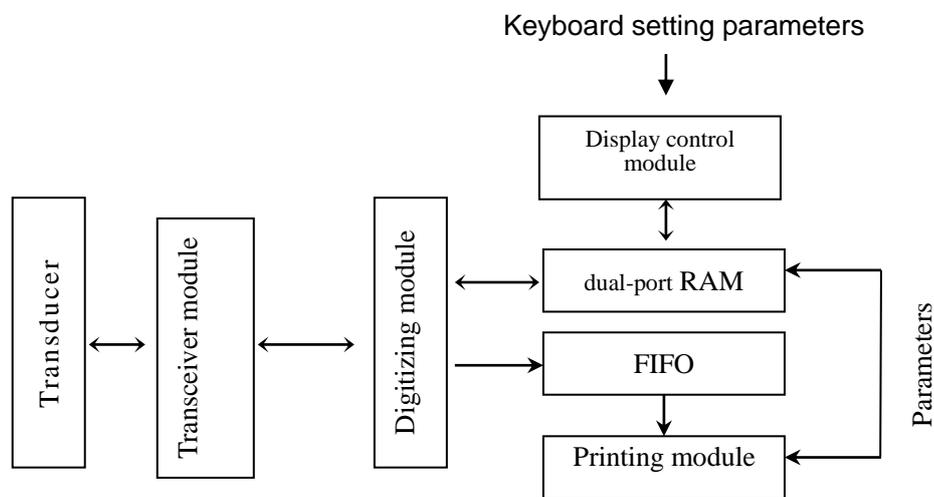

Fig.1-2 Principle of Operation
**HY1600** is a 208 kHz single-frequency echo sounder. The transducer transforms electric pulse into acoustic pulse and transmits it in the water to the bottom. The acoustic pulse echoes back from the bottom are received by the transducer which turns the echoes into electric pulse, sends it to electronic circuit for calculation. Finally, the calculated depth will be displayed on LCD, presented on recording paper and sent out via the serial port. The echo sounder is composed of five modules: transceiver module, digitizing module, display control module, power module and printing module. The principle of operation is shown in Fig.1-2.